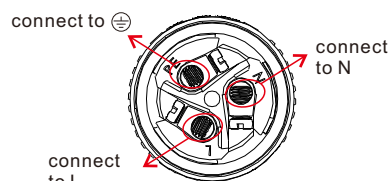

Figure 4.8 Single phase connection
- For single phase inverter installation connect L, N, PE to pin L, N, $\oplus$ (see figure 4.8).